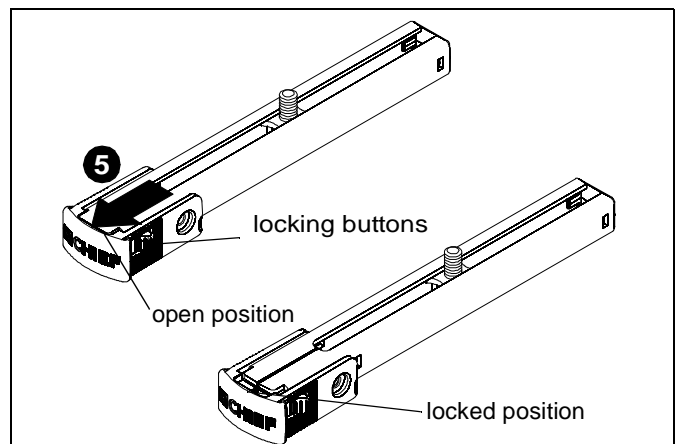

Figure 17
- Press locking buttons on SLMU leg (K) firmly and simultaneously push clip cover away from enclosed sliding stud mount bracket until clip cover is in the locked position. (See Figure 17)